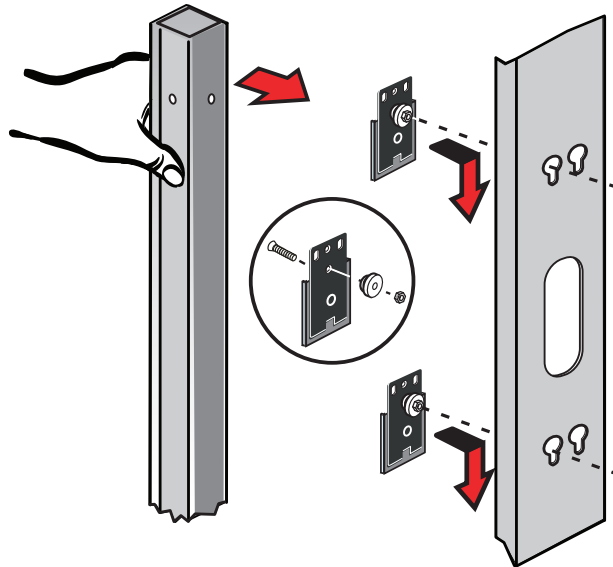

Figure 18. Attaching the Mounting Buttons to the Mounting Clip Feet
1. Locate the two mounting clip feet, M6 flathead screws, two spare plastic mounting buttons, and mounting hardware (M4 screws and M4 hex nuts, or M3 screws). Using a Phillips screwdriver, assemble the mounting buttons and clip feet (see Figure 18).